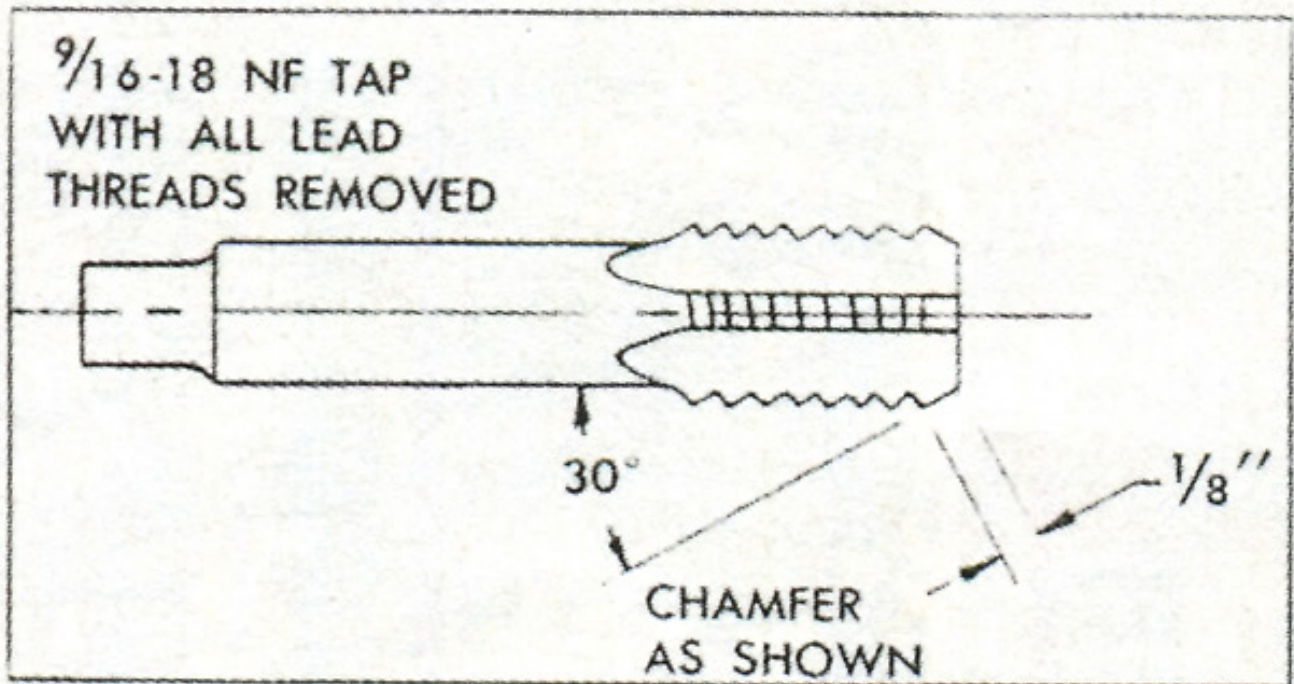
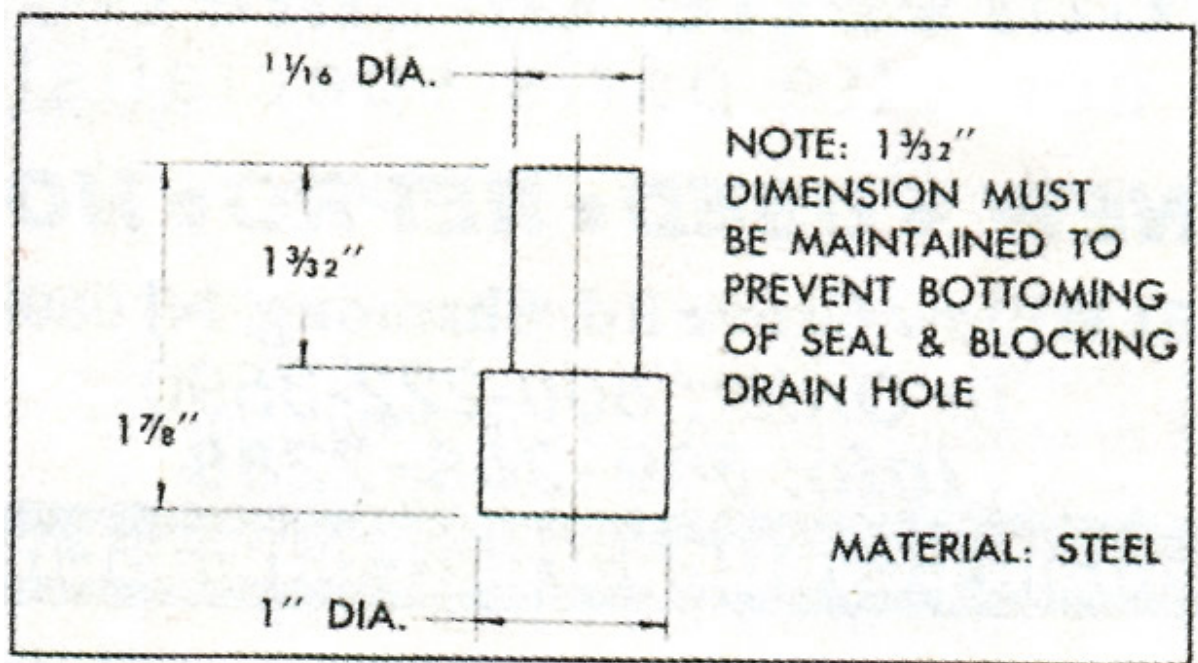

Fig. 6--Seal Remover
Fig. 7—Seal Installer
7. Screw reworked tap (Fig. 6) into seal.
10. Place a new seal in position in pump body with open end of seal downward. To satisfactorily replace the seal, it will be necessary to first make a seal remover (Fig. 6) and seal installer (Fig. 7), then perform the replacement exactly as described in the following.
11. Press into place using seal installer tool (Fig. 7).